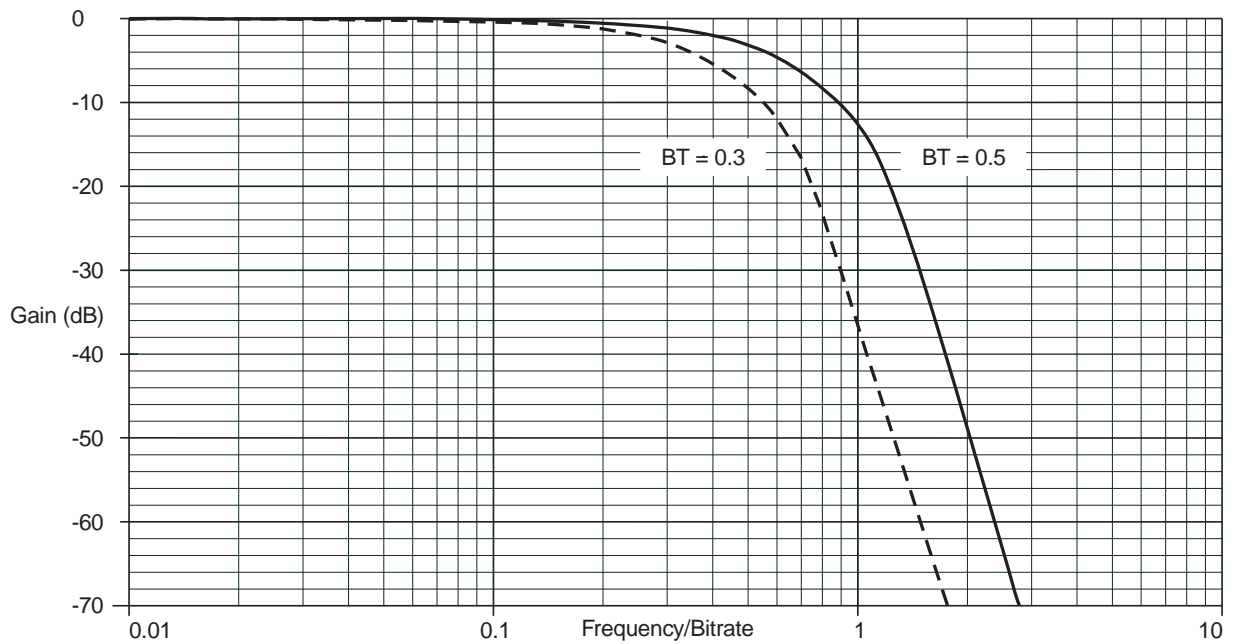

Figure 9: Tx Filter Response
The TX Filter has a lowpass frequency response, which is approximately gaussian in shape as shown in Figure 9, to minimize amplitude and phase distortion of the binary signal while providing sufficient attenuation of the high frequency-components which would otherwise cause interference into adjacent radio channels. The actual filter bandwidth to be used in any particular application will be determined by the overall system requirements. The attenuation-vs.-frequency response of the transmit filtering provided by the CMX589A has been designed to meet the specifications for most GMSK modem systems that are -3dB bandwidth switchable between 0.3 and 0.5 times the data bit-rate (BT).